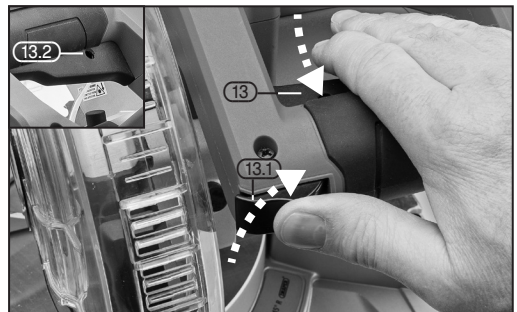

FIG. 27
7.2 STARTING THE MITRE SAW – FIG. 27